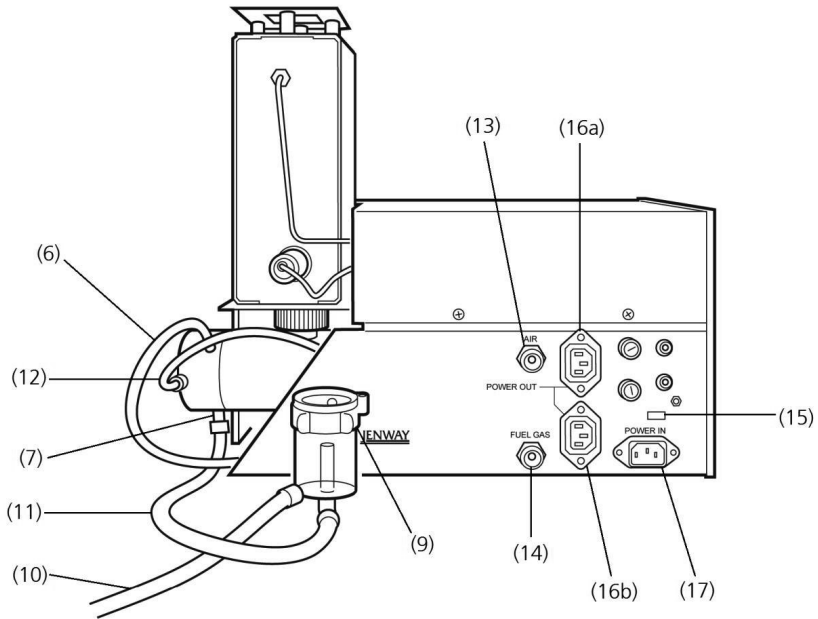

Figure 2.3.2: Rear panel showing the drain trap, air and fuel inlets.
1. Fit the appropriate lengths of 8mm and 6mm tubing to the connectors 13 and 14 (figure 2.3.2). Run the tubing to the air and fuel supplies to be used.
2. Plug the power cable into the POWER IN socket 17 (figure 2.3.2). If necessary connect a suitable plug to the 3-pin AC supply lead. The colours of the wires conform to the internationally recognised standard such that:
If a compressor is to be run directly from the instrument then it should be connected to the plugs provided and connected to the POWER OUT sockets 16a and 16b (figure 2.3.2).